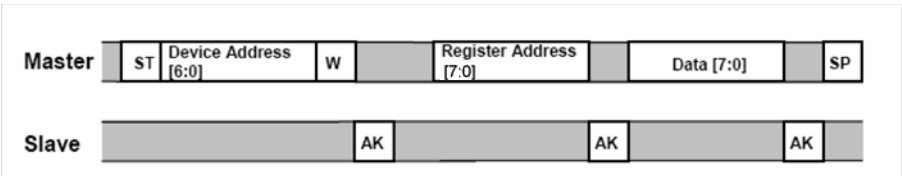

Figure 9. Single Byte Write - The Master (MCU) is writing to a single register of the MMA7455L
To start a write command, the Master transmits a start condition (ST) to the MMA7455L, **slave address (\$1D)** with the R/W bit set to “0” for a write, the MMA7455L sends an acknowledgement. Then the Master (MCU) transmits the 8-bit address of the register to write to, and the MMA7455L sends an acknowledgement. Then the Master (or MCU) transmits the 8-bit data to write to the designated register and the MMA7455L sends an acknowledgement that it has received the data. Since this transmission is complete, the Master transmits a stop condition (SP) to the data transfer. The data sent to the MMA7455L is now stored in the appropriate register. See Figure 9.